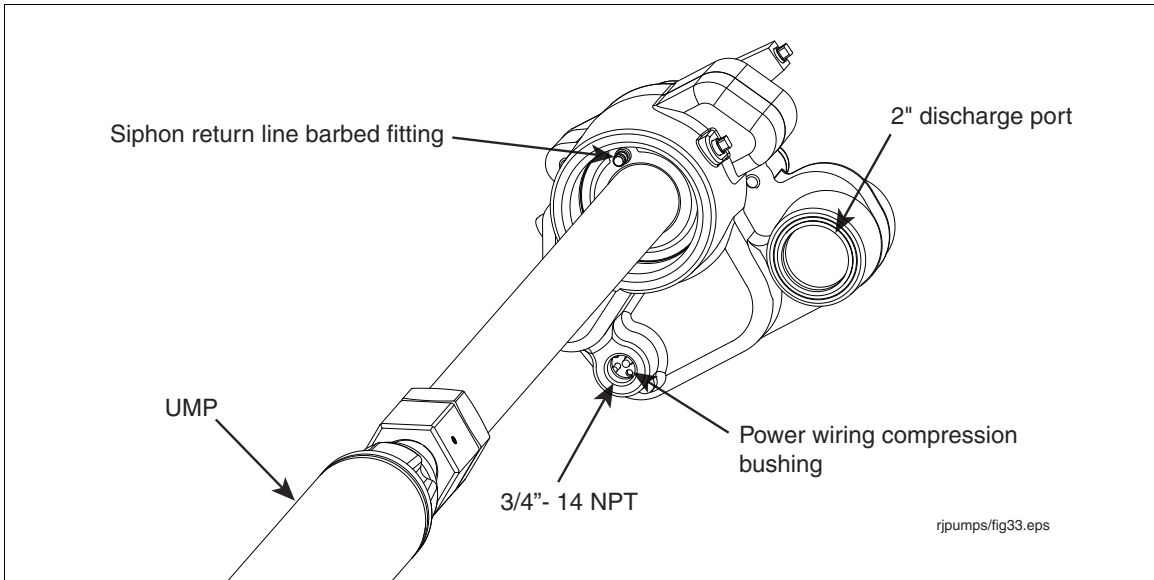

Figure 11. Locating Return Line Fitting On Packer
- Attach the siphon return line tubing to barbed fitting in the base of packer and secure with a clamp (see Figure 11).